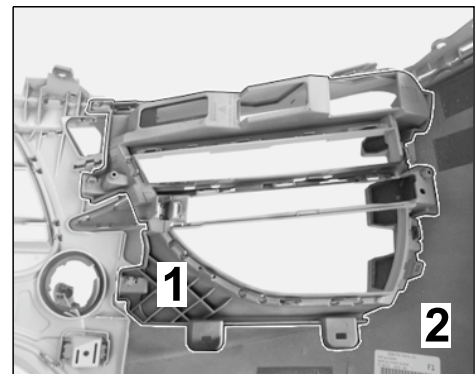

Figure 10
2.7.1 Fit new air grilles (side, left/right) in the front apron (⇒ *Figure 10*; ⇒ *Workshop Manual '66041921 Removing and installing front air grille (Turbo)*).